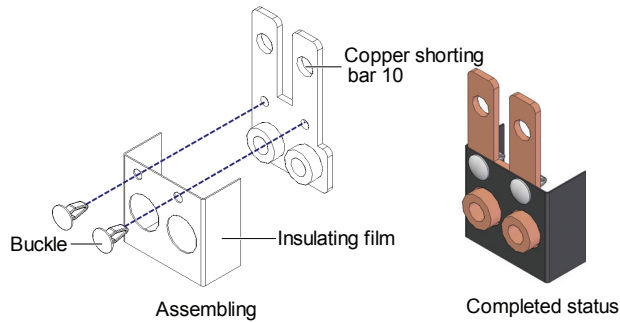

Figure 2-16 Pasting the insulating film to the copper shorting bar 10
2. As shown in Figure 2-16, paste the insulating film (accessory) on the copper shorting bar 10, and insert the buckles into the corresponding holes on the copper shorting bar 10.